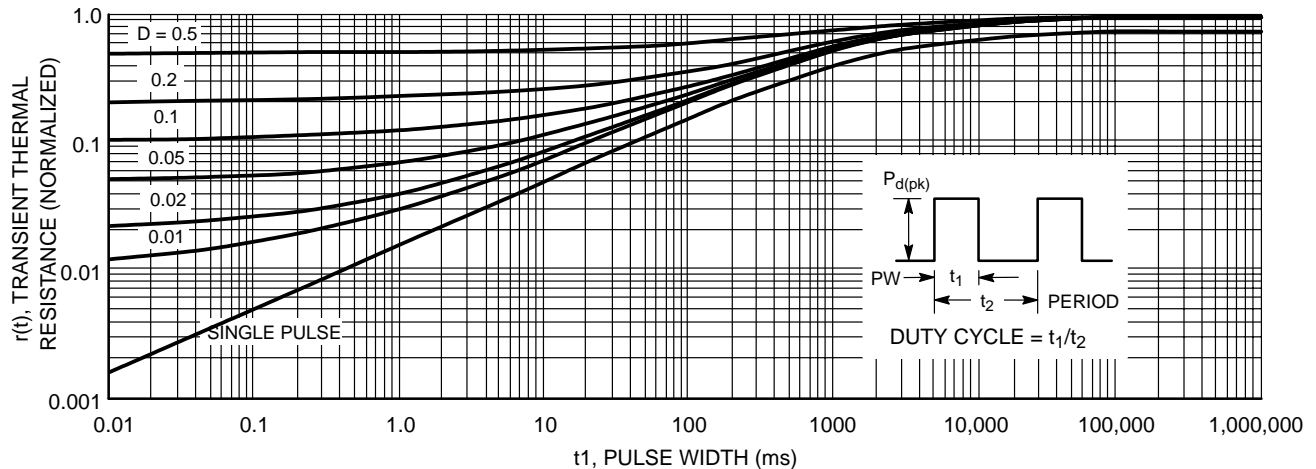

Figure 11. Transient Thermal Response
Figure 11 of the NUD3105LT1 data sheet plots its transient thermal resistance,  $r(t)$  as a function of pulse width in ms for various pulse train duty cycles as well as for a single pulse and illustrates this effect. For short pulse widths near the left side of the chart,  $r(t)$ , the factor, by which the continuous duty thermal resistance is multiplied to determine how much the peak power rating can be increased above the average power rating, approaches the duty cycle of the pulse train, which is the expected value. However, as the pulse width is increased, that factor eventually approaches 1.0 for all duty cycles indicating that the pulse width is sufficiently long to appear as a continuous duty condition to this device. For the NUD3105LT1, this pulse width is about 100 seconds. At this and larger pulse widths, the peak power dissipation capability is the same as the continuous duty power capability.
To use Figure 11 to determine the peak power rating for a specific application, enter the chart with the worst case pulse condition, that is the max pulse width and max duty cycle and determine the worst case  $r(t)$  for your application. Then calculate the peak power dissipation allowed by using the equation,
2. For pulsed operation, use the Transient Thermal Response of Figure 11 and the instructions with it to determine the maximum limit on transistor power dissipation for the desired duty cycle and temperature range.